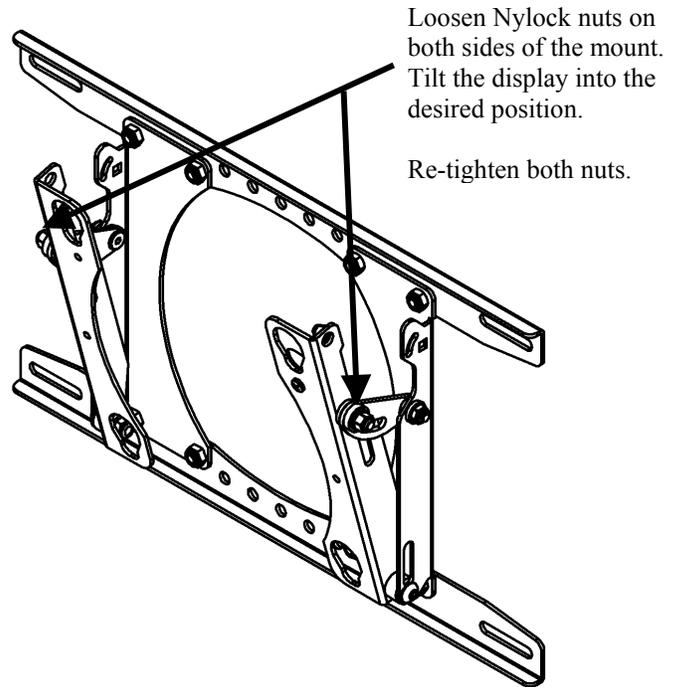

Figure 8. Tilt Adjustment
1. Using 7/16" socket wrench, loosen the nuts (see Figure 8) on both arms of the mount.